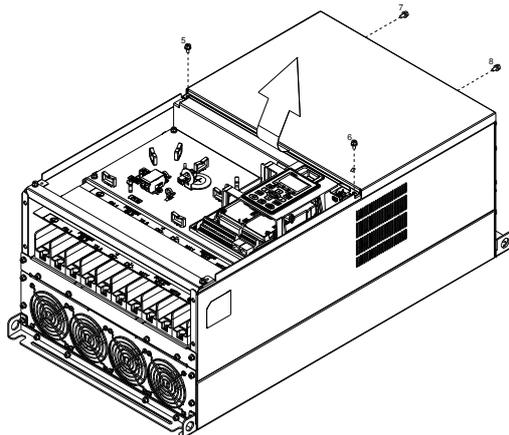

Figure 2
(2) Loosen the screw (figure 2) and removes the cover.